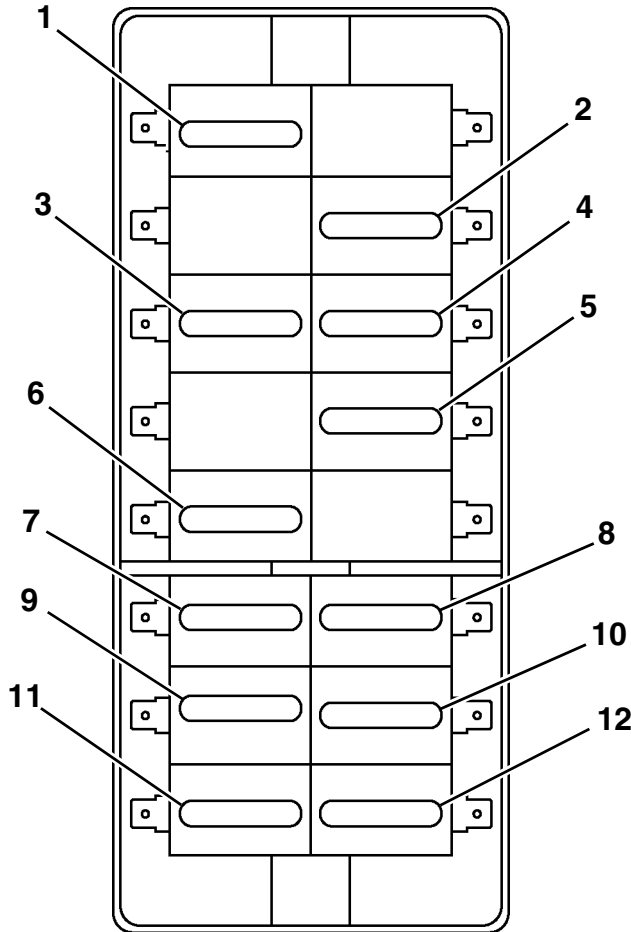

Figure 7-4
Fuses that blow may be replaced but will continue to blow until the cause of the overload is found and corrected. Refer to Figure 7-4 for replacement fuse sizes.
- Check the fuse panel for a blown fuse (**Figure 7-4**).